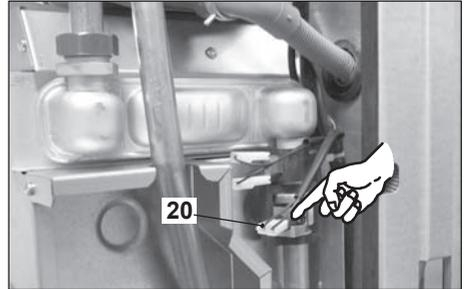

Fig. 8.3
- Disconnect the electrical connectors of the C.h. temperature probe NTC 20 in Fig. 8.3
- Connect the the electrical connectors of the C.h. temperature probe NTC 20 in Fig. 8.3.